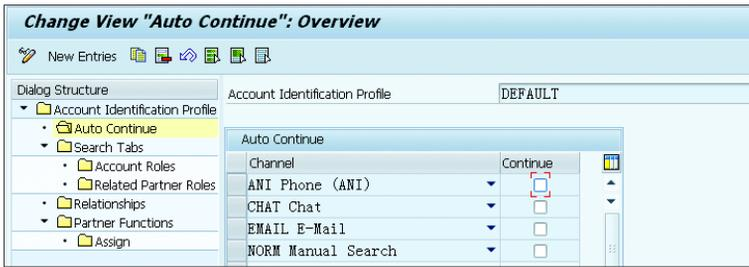

Figure 9.17 Auto Continue
3. Figure 9.17 shows the AUTO CONTINUE functionality that can be activated for different channels. If you activate the CONTINUE check for any of the channels, the confirmation is automatically performed as soon as the unique accounts are found.